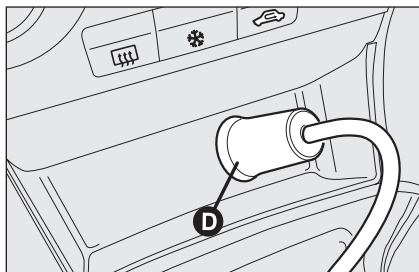
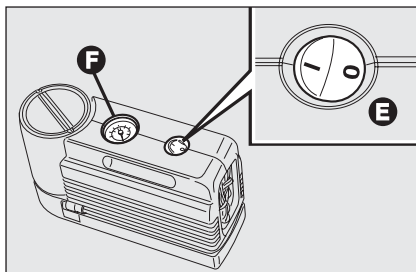

fig. 14
fig. 15
□ make sure the compressor switch **E-fig. 15** is set to **0** (off), start the engine and fit plug **D-fig. 14** into the cigar lighter outlet and then turn on the compressor by setting switch **E-fig. 15** to **1** (on). Inflate the tyre to the pressure specified in paragraph “Cold tyre inflation pressure” in section “Technical specifications”. Check tyre pressure on gauge **F-fig. 15** with compressor off to obtain precise reading;